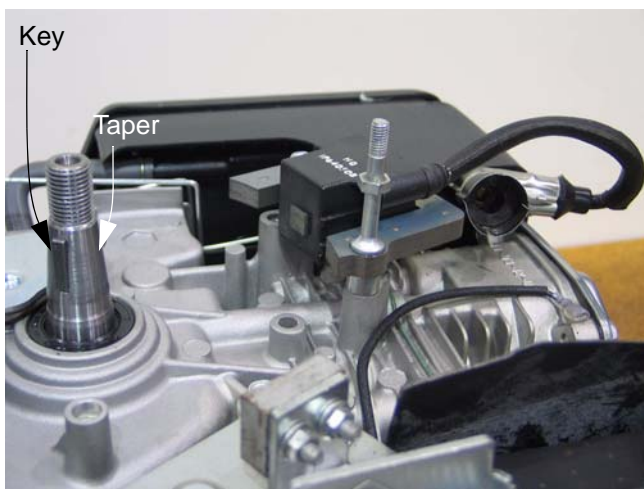

Figure 4.17
- 4e. Inspect the key, keyway, and tapered mating surfaces of the flywheel and crankshaft. See Figure 4.17.